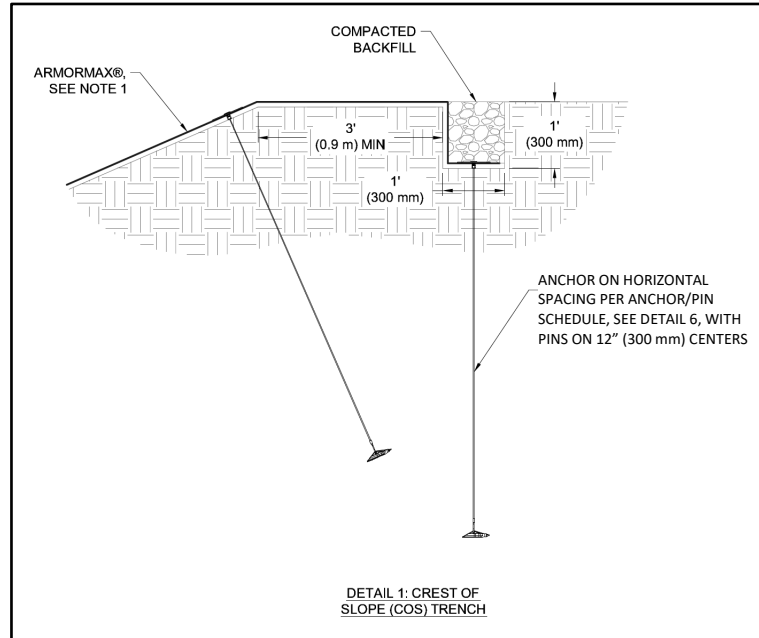

Figure 1: Crest of Slope (COS) Trench
4. Excavate a Crest of Slope (COS) trench 12 in x 12 in (300 mm x 300 mm) minimum at a distance of 3 ft (900 mm) from the crest of the slope. (Figure 1).